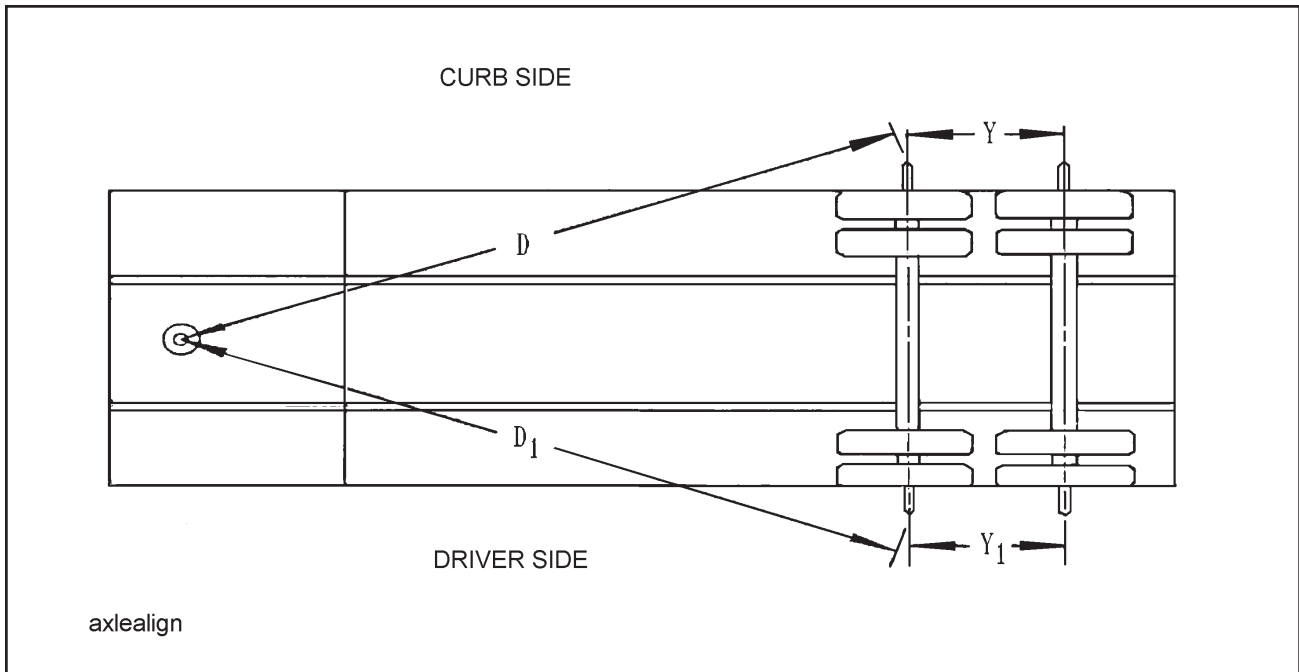

Figure 4-13 Checking Axle Alignment
4. Measure (D) from the plumb bob to the center point on one end of the axle. Record this measurement (**See Figure 4-13**).
5. Measure (D1) to the other end of the axle in the same manner as in **Step 4.** Record this measurement (**See Figure 4-13**).